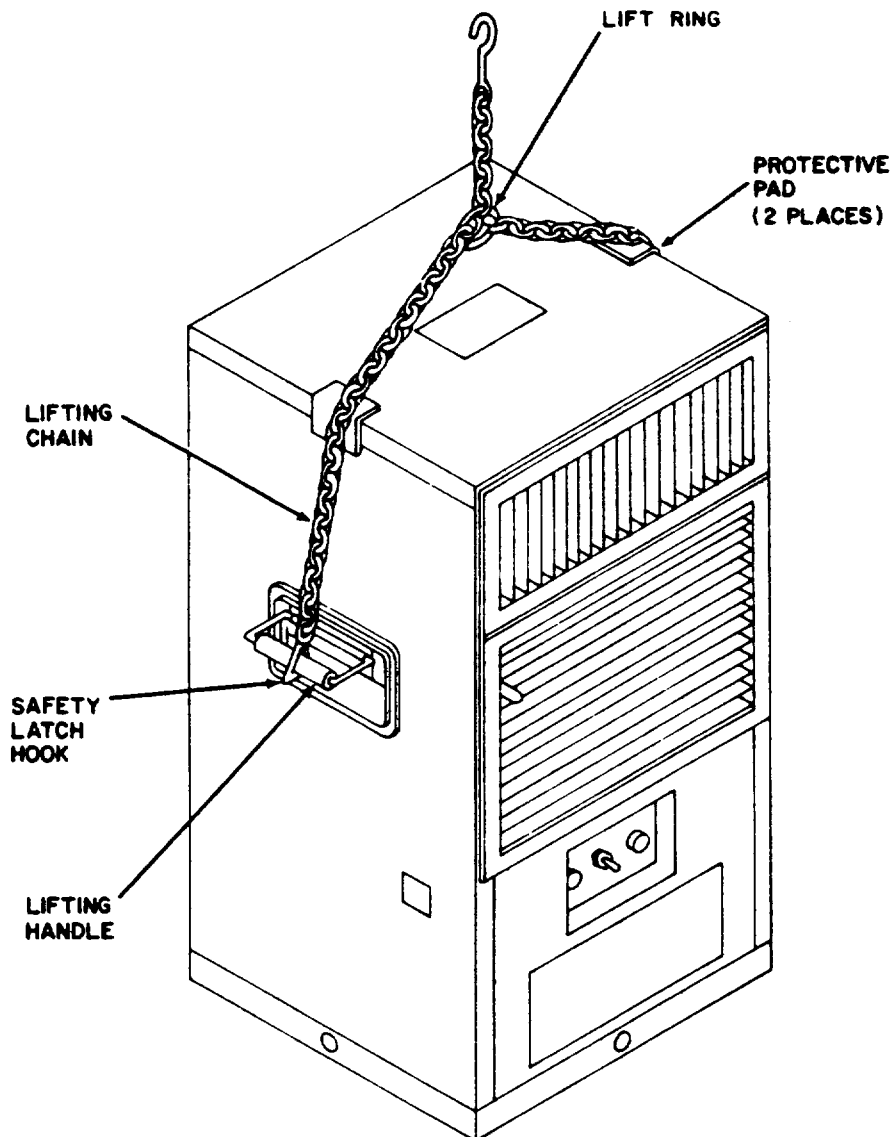

Figure 4-4. Lifting Using Slings.
(1) Lift air conditioner to top of the mounting brackets. Each side has one lifting handle.
(2) Use lifting sling if possible. See Figure 4-4.